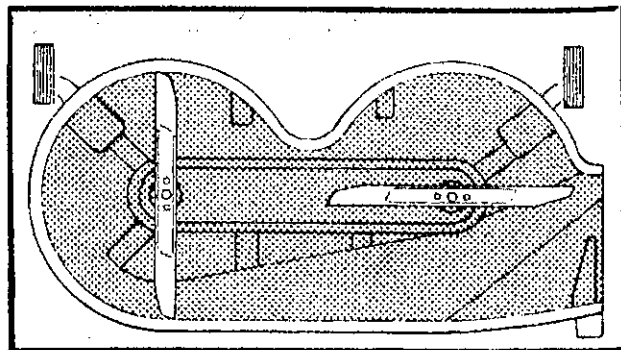

FIGURE 39.
2. Rotate the blade on the cutting deck and reassemble the other blade at 90° exactly as shown in figure 39.